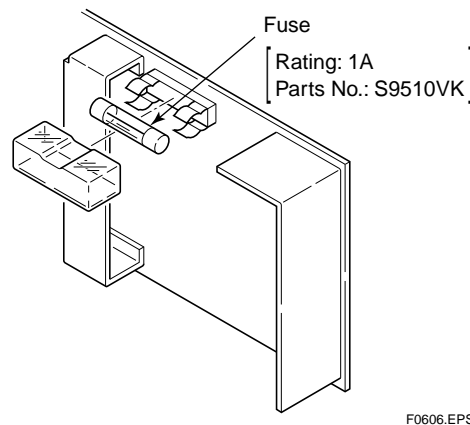

Figure 6-7 Replacement of Fuse
- (1) Remove the fuse holder cap, then pull the fuse out in the direction shown in Figure 6-7.
- (2) When installing a new fuse, use a fuse with the correct rating. Fasten the cap securely.